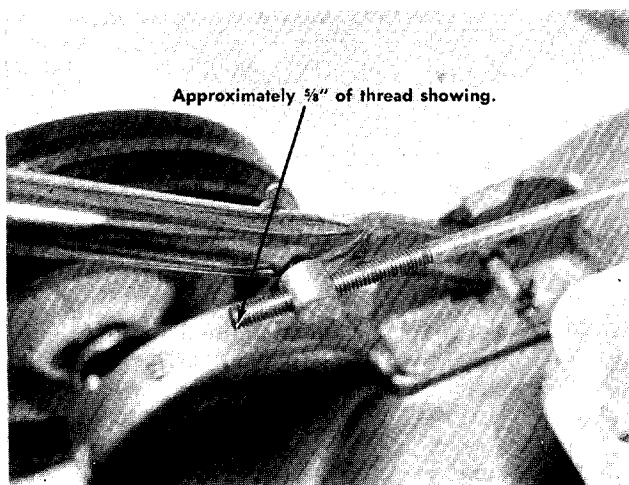

FIGURE 9. CLUTCH ROD SETTING FOR THE TWO LOWEST CUTTING HEIGHTS.
6. Figures 9, 10 and 11 will give the approximate length of rod that should be showing for each cutting height.